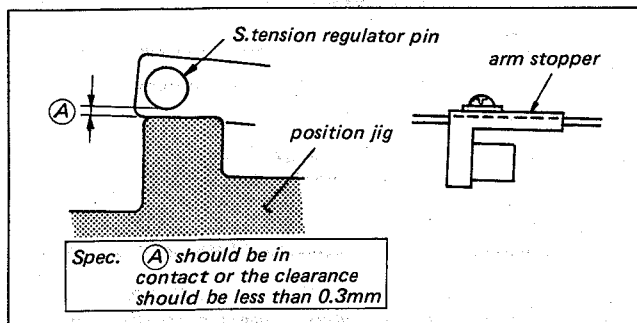

Fig. 4-26. When (B) portion is in contact
Requirement-2; When (B) is in contact, Fig. 4-26, (A) should be in contact, or the clearance should be less than 0.3 mm.